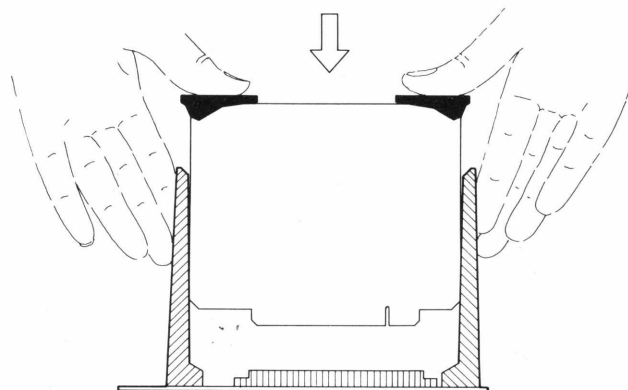

Fig. IX-7 Fitting printed-wiring cards
- Push down the circuit card perpendicularly according to Figures IX-7 and 8.